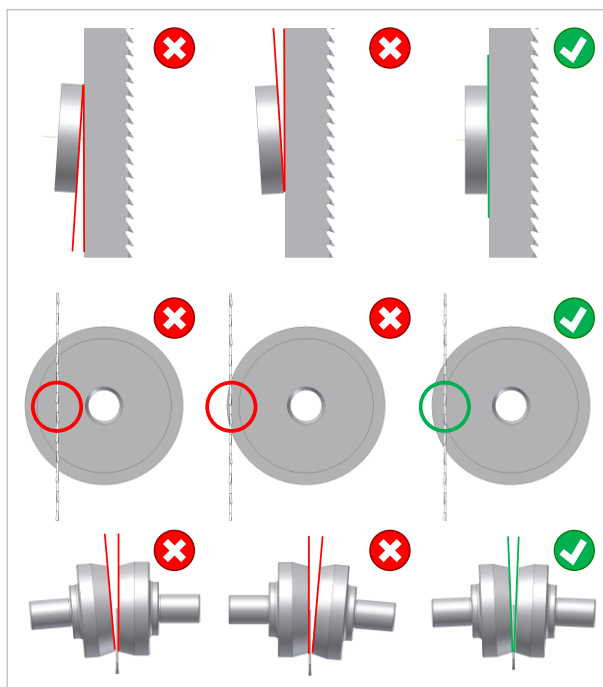

Figure 39: Basic adjustment of the back and side rollers
- Adjust side rollers so that they only lightly touch the saw blade (see ⇒ Figure 39). Please take care that the saw blade is not pushed to the side!
- The ⇒ Figure 39 shows on the far right the optimal setting of the back and side rollers. On the left and in the middle, it is shown which settings are wrong and must be avoided.
- The back roller must be parallel to the back of the saw blade (vertical), see ⇒ Figure 39 top right.
- The saw blade must run exactly in front of the inner edge of the back rollers (⇒ Figure 39, centre right).
- The opening angles between the side rollers and the saw blade must be the same on both sides (⇒ Figure 39 bottom right).